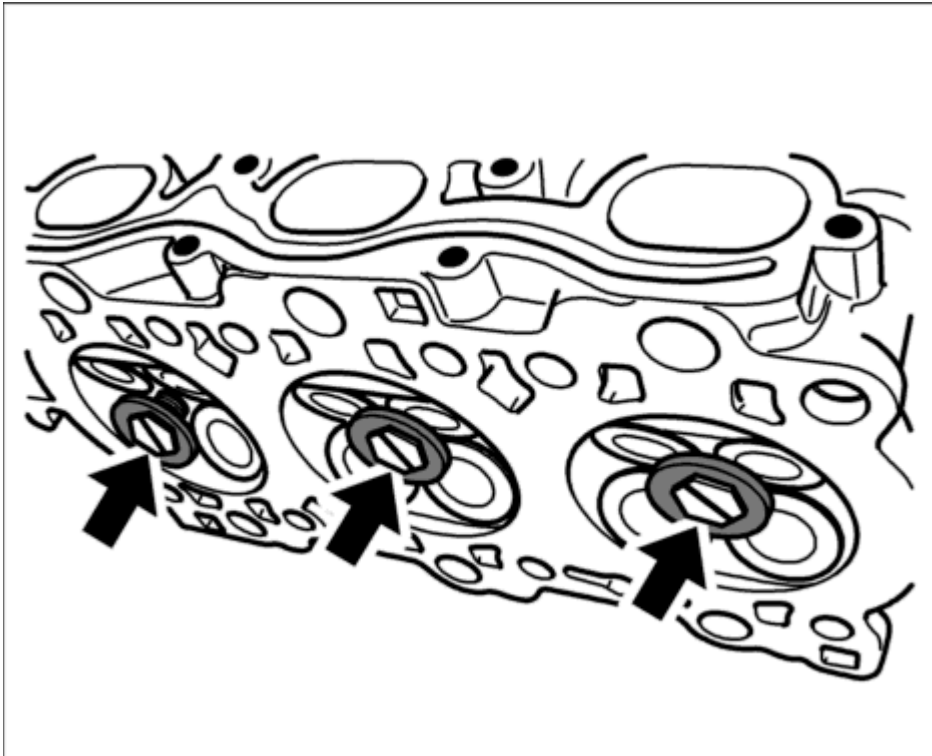

Fig. 183: Valve locating screws
2. Screw in the three valve locating screws -arrows- in the spark plug threads. See **Fig. 183**.